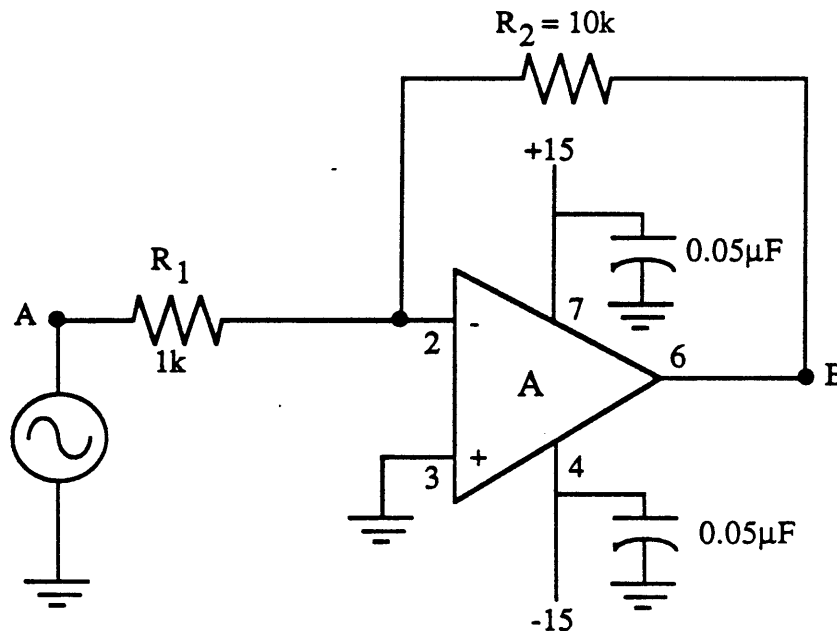

Figure 2 - Basic Inverting Amplifier Configuration
- (1) Set the signal generator to deliver a 2 V_{p-p} sine wave with zero DC offset at 1 KHz before connecting it to the circuit. (The displayed waveform will not jump when the coupling is switched from AC to DC if the DC offset is zero.)
- (2) Build the circuit of Fig. 2 using an LM741. Do NOT put the 0.05 μF capacitors in your circuit yet.
- (3) Display point A on channel 1 (CH1) with 1 V/cm, display point B on channel B (CH2) with 5 V/cm, and DC couple both channels.
- (4) Record the waveforms at points A and B in Table 6.3. Make special note of the phase difference between the two signals.
- (5) Replace the LM741 with an LF357 op-amp. The scope display should become unintelligible.
- (6) NOW connect a 0.05 μF decoupling capacitor from +V_{cc} to ground and from -V_{cc} to ground as shown in Figure 2. The circuit should now operate as it did in step 4.
- (7) Record the signal (peak-peak) amplitudes at points A and B in Table 6.4 and make special note of the phase difference between them.
Fig. 2 in the LM741 data sheet shows the open loop frequency response (gain versus frequency) of the device. An op-amp has its greatest gain when there is no feedback (open loop). However, this maximum possible gain decreases as the frequency to be amplified increases. As a matter of fact, the product of the frequency times the maximum gain at that frequency (the gain bandwidth product) is a constant from 100 Hz to 1 MHz.